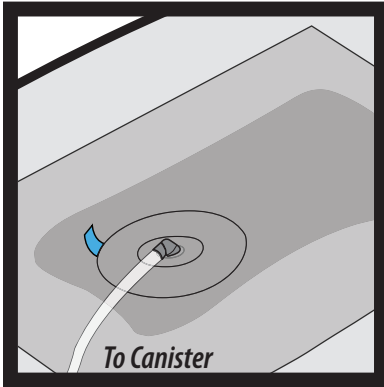

Figure 17
4. Apply NPWT dressing as usual (see section **3.1 APPLYING THE DRESSING**) (**Figure 17**).